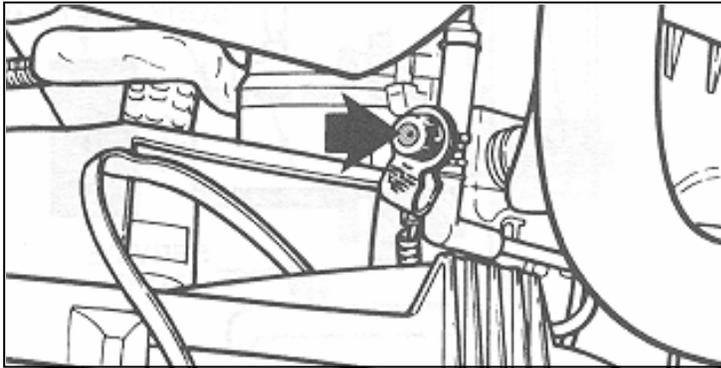

Figure 3
5. Locate the vehicle EVAP Service Port; remove the green cap and the Schrader valve that is inside the Service Port. (Figure 3)